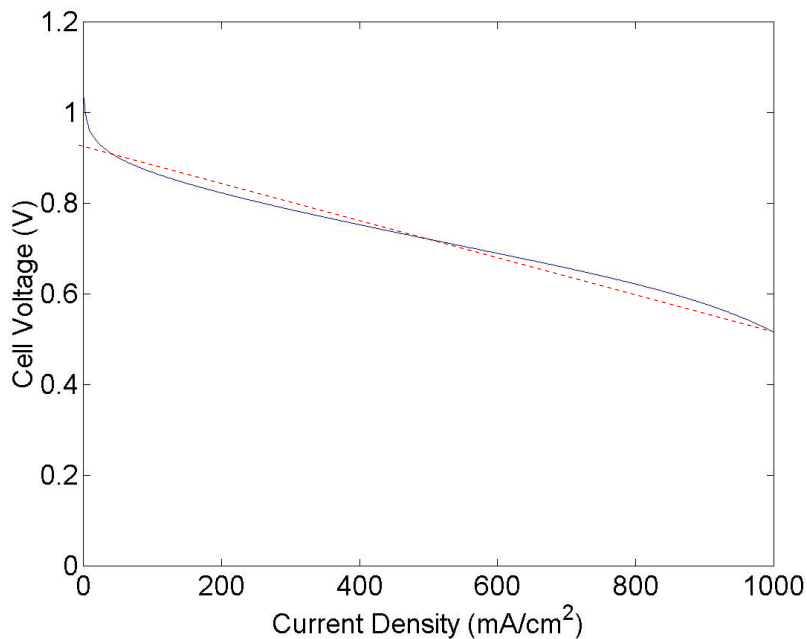

Figure 4: Polarization Plot
- The polarization curve (Figure 4) gives insight into both chemical and electrical events occurring within the active region of the fuel cell. The voltage drop, also called *overvoltage*, increases with current density and can be attributed to three different physical mechanisms:
It is noted that all of the above losses result in fuel being converted into heat instead of electricity. The curve can be approximated by (dashed red line on fig. 4):